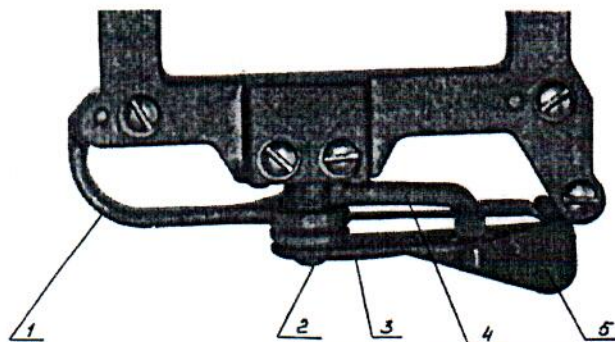

Figure 3 - Sight-to-gun fitting arrangement
5.2 The sight-to-gun fitting arrangement includes (Figure3): body 1; adjusting screw 2; movable block 3; lever with eccentric 4; rest 5.